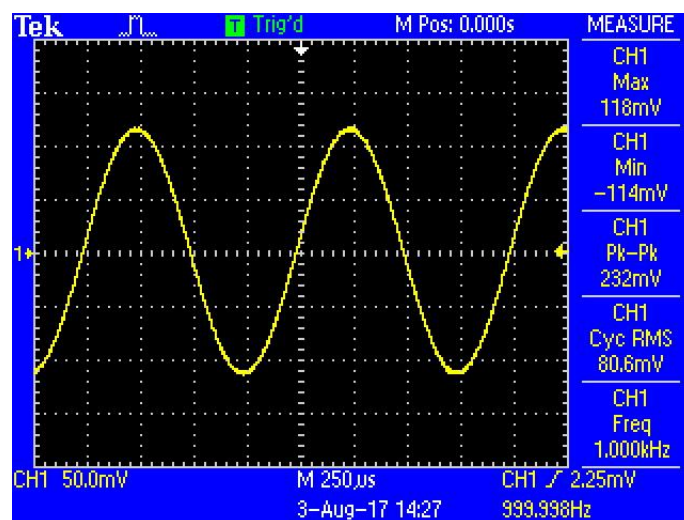

Fig.85 Parameters of Measured Signal
3. Turn on the function signal generator and set 'Function: Sine', 'Amplitude: 80mVrms', 'Frequency: 1kHz', 'Output Impedance: High Z', as shown in Fig.85.